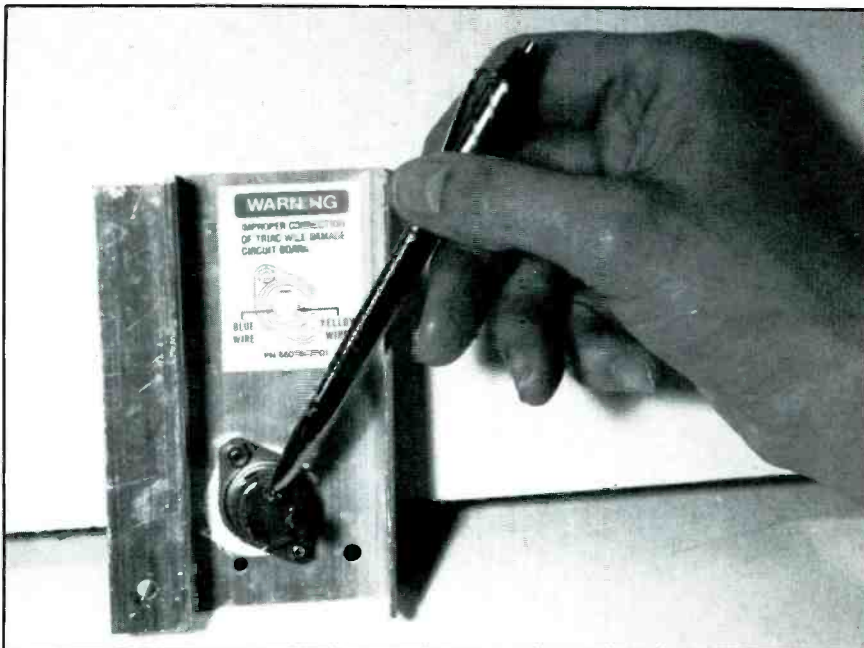

Figure 6. Although the triac component operates the same in most ovens, replace with the original part number.
- A.) greater for the circuit in (a) of Figure 6.
- B.) the same for both of the circuits in Figure 6.
- C.) greater for the circuit in (b) of Figure 6.
In normal operation, the control panel supplies a trigger voltage to the gate terminal of the triac assembly (Figure 5) in ovens that use a triac assembly instead of an oven relay. A leaky triac assembly may start the oven without any outside gate voltage. The leaky transformer triac was replaced in a Norelco MCS8100 oven when the oven could not be controlled, using a triac with an 811-000-00005 original part number (Figure 6).